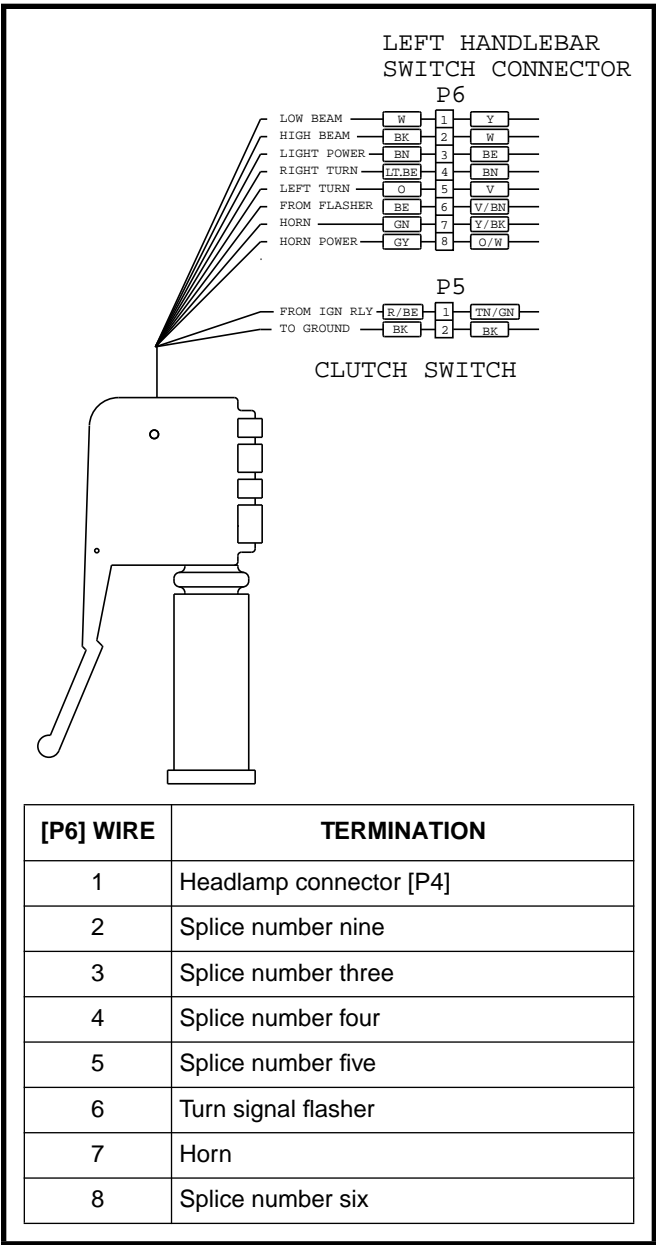

Figure 7-41. Left Handlebar Switch Connection [P6]
4. See Figure 7-41. Cut as many cable straps as necessary to access left handlebar switch connector [P6] along right side frame tube. Detach connector [P6] from wiring harness.
- 2. See Figure 7-41. Route switch housing wiring harness between front forks and along right side frame tube. Attach connector [P6] to wiring harness. Fasten wiring harness to frame with **new** cable straps.